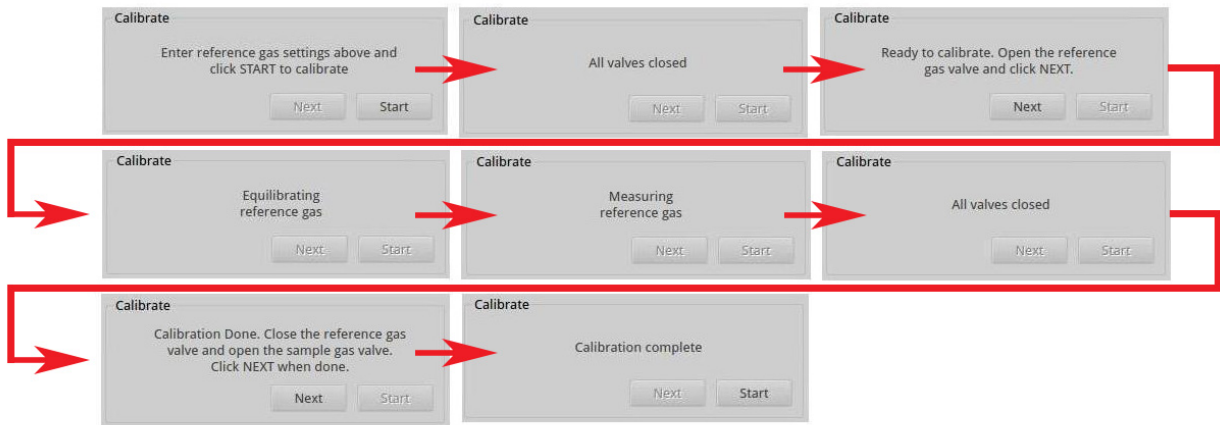

Figure 32: Calibration Flow
- Each step is displayed in the lower-right panel of the calibration screen as the analyzer performs the calibration. Figure 32 shows the calibration process as a flow chart.